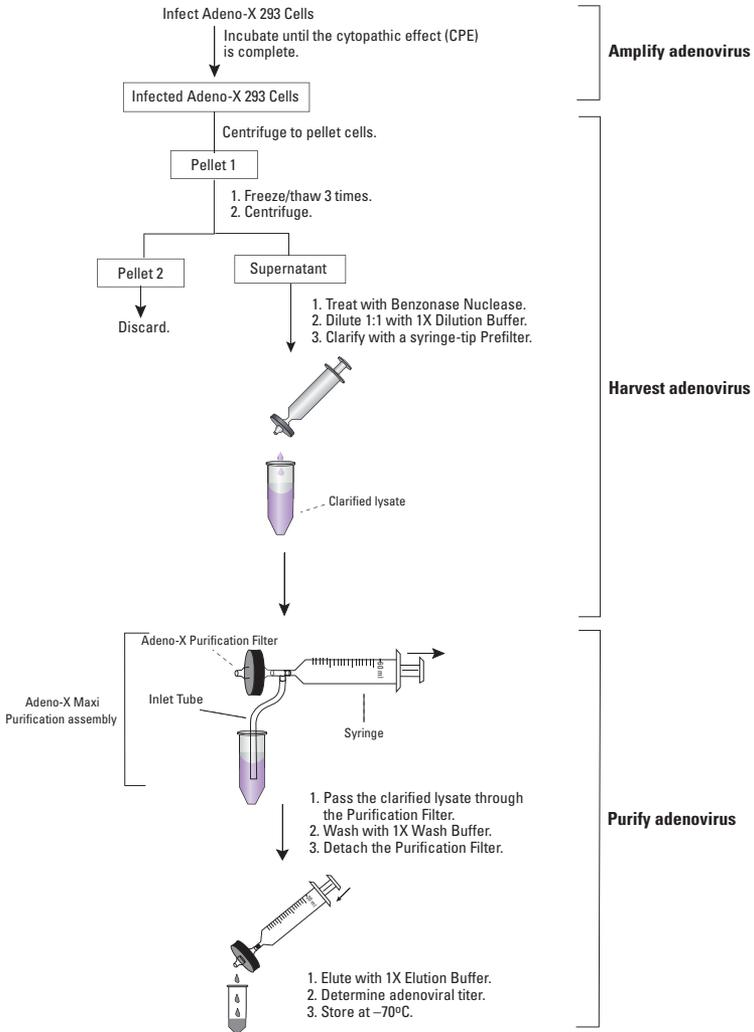

Figure 3. Overview of the Adeno-X Maxi Purification Protocol.
The procedure is simple. After the cytopathic effect is complete, the cells are harvested, lysed, and centrifuged. The resulting supernatant is then treated with Benzonase Nuclease to digest nucleic acids, and cleared (clarified) through a syringe-tip pre-filter. Next, a syringe is used to push the virus-containing extract through the purification cartridge, where the adenoviral particles bind to the filter. The bound particles are then eluted with a small volume of buffer. The entire protocol, from harvest to purification, takes just 1-1.5 hours to complete (Figure 3). Aliquots of the purified, high-titer adenoviral stock can be stored in Elution Buffer at -70°C . Please note: All of these steps must be conducted under sterile conditions in a Biosafety Level 2 certified hood.
C. Harvest Adenovirus (See Figure 3 for a procedural diagram)